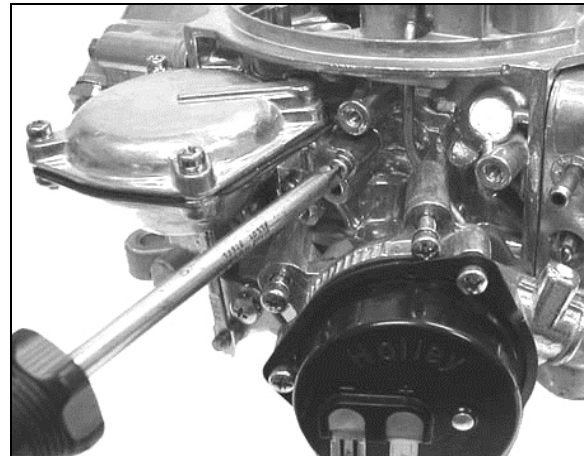

Figure 15
2. Remove three screws attaching secondary vacuum diaphragm to the main body (Figure 15).